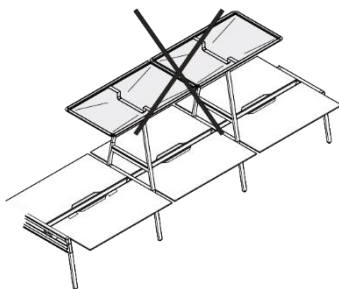

Figure 31 Canopy, impermissible attachment
- Two canopies directly next to each other over desks with a width of 1400 mm (see Figure 31). Reason: Lack of Space. A canopy has a width of 1467 mm.